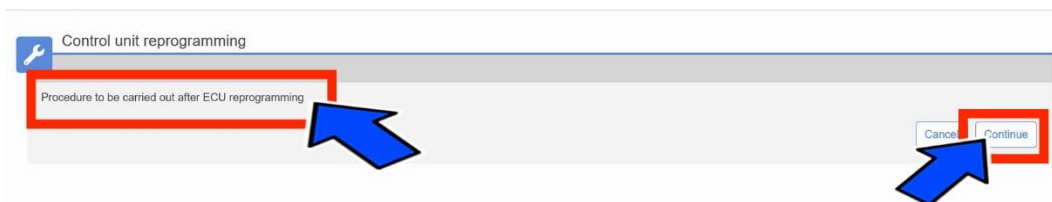

Figure 27 - Procedure to be Carried Out After ECU Reprogramming
- Select “Procedure to be carried out after ECU reprogramming” and then click “Continue” (Figure 27).